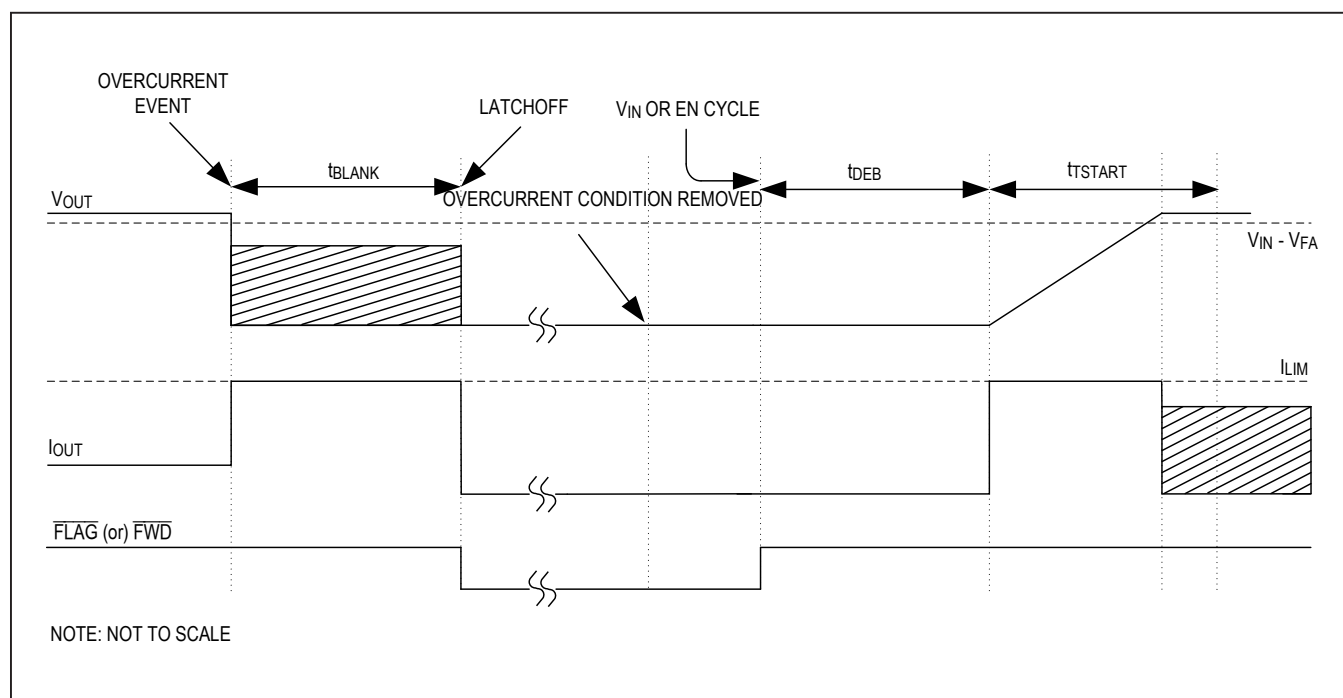

Figure 9. Overcurrent Fault Timing Diagram in Latchoff Current-Limit Mode
In latchoff current-limit mode during startup, the device operates in continuous current-limit mode until  $t_{TSTART}$ . The timer  $t_{TSTART}$  resets if the output voltage  $V_{OUT}$  reaches  $(V_{IN} - V_{FA})$  within  $t_{TSTART}$  and then the normal operation continues. If the overcurrent condition is present for longer than startup blanking time ( $t_{TSTART}$ ), the output NFET Q2 is turned off and latched, the timer  $t_{TSTART}$  resets, and the  $\overline{FLAG}$  (or  $\overline{FWD}$ ) pin asserts. To reset the device, either toggle the enable control signal (EN) or cycle the input voltage. Figure 9 depicts a typical startup behavior in latchoff current-limit mode.
In latchoff current-limit mode during normal operation, if the device enters an overcurrent condition, the  $t_{BLANK}$  timer starts. The  $t_{BLANK}$  timer resets as and when the overcurrent condition resolves before the  $t_{BLANK}$  duration has elapsed, and then the normal operation continues. If the overcurrent condition exists for the  $t_{BLANK}$  duration or if the device junction temperature reaches  $T_{JC\_MAX}$ , the output NFET Q2 is turned off and latched, the  $t_{BLANK}$  timer resets, and the  $\overline{FLAG}$  (or  $\overline{FWD}$ ) pin asserts. To reset the device, either toggle enable control signal (EN) or cycle the input voltage. Figure 9 depicts a typical operating behavior in latchoff current-limit mode.